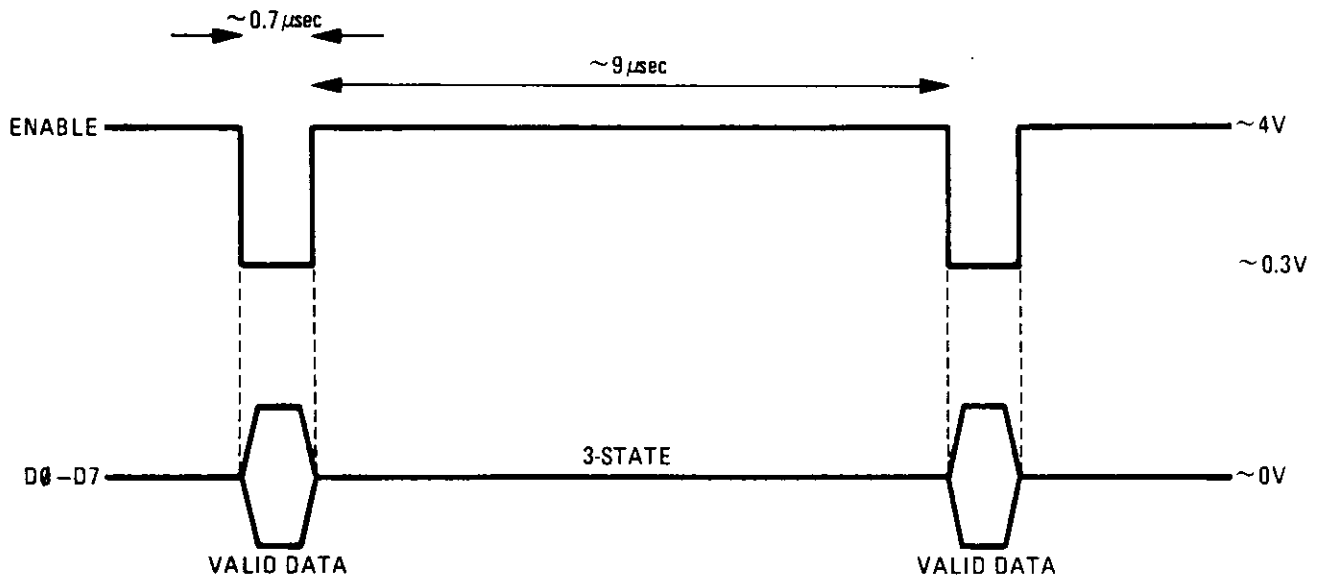

Figure 8-3. Hex Addressed Fast Read — Timing Diagram
- HEX ADDRESSED FAST READ [M5], provides an operator-initiated check for verification of the data bus, in which the addressed device is clocked in real time. Latch outputs can be traced from the onboard location back through the data bus to the microprocessor. At each buffer, verify proper TTL levels when the enable line goes low (data valid). Enable line waveforms are shown in Figure 8-3, *Hex Addressed Fast Read – Timing Diagram*.